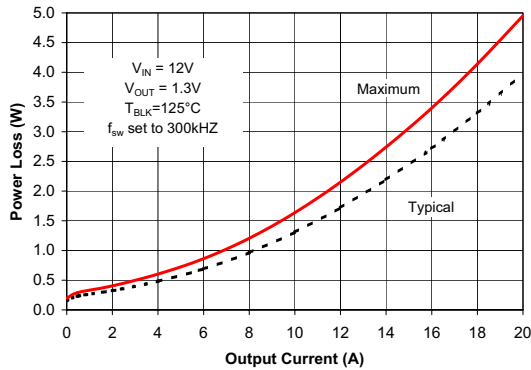
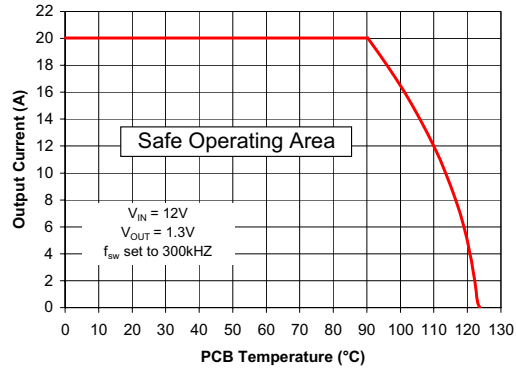
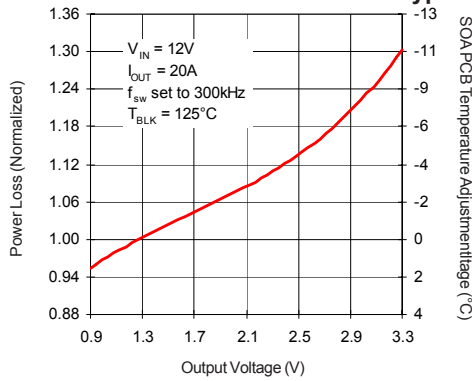

Fig 1. Power Loss vs Current
Fig 2. Safe Operating Area (SOA) vs T_{PCB}
Fig 3. Normalized Power Loss vs V_{OUT}
To make adjustments to the power loss curves in Fig. 1, multiply the normalized value obtained from the curves in Figs. 3, or 4 by the value indicated on the power loss curve in Fig. 1. If multiple adjustments are required, multiply all of the normalized values together, then multiply that product by the value indicated on the power loss curve in Fig. 1. The resulting product is the final power loss based on all factors.
To make adjustments to the SOA curve in Fig. 2, determine the maximum allowed PCB temperature in Fig. 2 at the required operating current. Then, add the correction temperature from the normalized curves in Figs. 3 or 4 to find the final maximum allowable PCB temperature. When multiple adjustments are required, add all of the temperatures together, then add the sum to the PCB temperature indicated on the SOA graph to determine the final maximum allowable PCB temperature based on all factors.
- (Fig. 1) Maximum power loss = 5 W
- (Fig. 3) Normalized power loss for output voltage ≈ 1.14
- (Fig. 2) SOA PCB Temperature = 90°C
- (Fig. 3) Normalized SOA PCB Temperature for output voltage ≈ -4.5°C